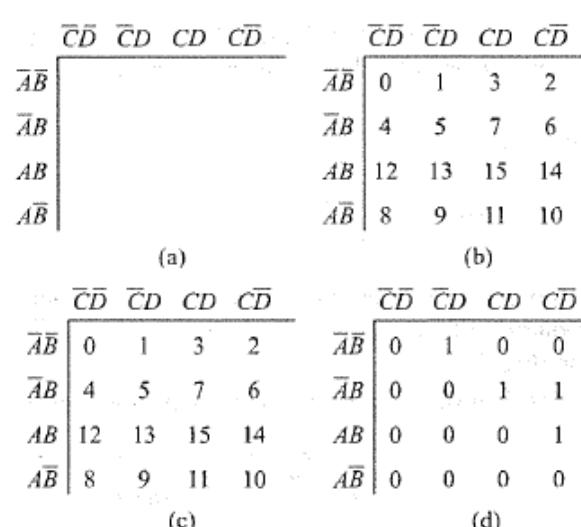

Figure 3.9: Four variable kmap
- Kmap for logic equation $Y=F(A,B,C,D)=\sum m(2,6,7,14)$ is shown in Figure 3.9